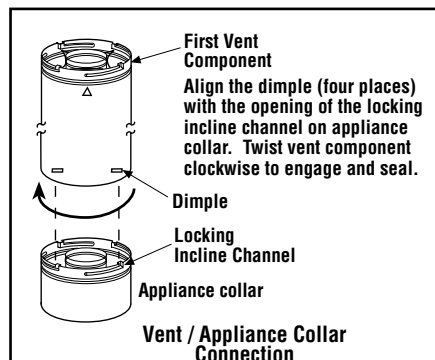

Figure 15
- **Secure Vent** SV8 direct vent system components are unitized concentric pipe components featuring positive twist lock connections (see **Figure 15**).
To attach a vent component to the appliance collar, align the dimpled end over the collar, adjusting the radial alignment until the four locking dimples are aligned with the inlet of the four inclined channels on the collar (refer to **Figure 15**). Push the vent component against the collar until it fully engages, then twist the component clockwise, running the dimples down and along the incline channels until they seat at the end of the channels. The unitized design of the **Secure Vent** components will engage and seal both the inner and outer pipe without the need for sealant or screws. If desired a #6 x 1/2" screw may be used at the joint, but it is not required as the pipe will securely lock when twisted.
D. Attach vent components to appliance - To attach a vent component to the appliance collar, align the dimpled end over the collar, adjusting the radial alignment until the four locking dimples are aligned with the inlets of the four incline channels on the collar (refer to **Figure 15 on Page 12**).